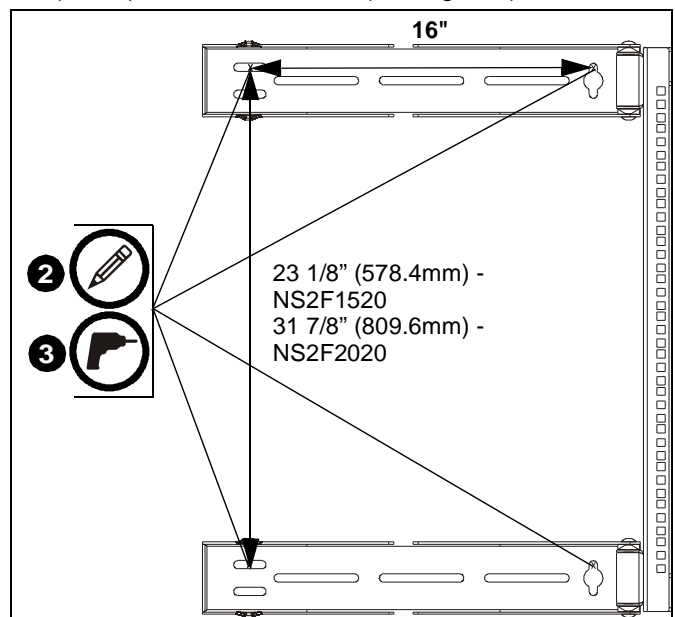

Figure 6
2. Place assembled frame on wall and mark hole locations. (See Figure 6)
**NOTE:** Holes must be drilled 23 1/8" (578.4mm) apart vertically if mounting an NS2F1520 or 31 7/8" (809.6mm) apart vertically if mounting an NSF2020. (See Figure 6)
3. Drill four 3/8" (10mm) diameter holes to a depth of 3 1/2" (89mm) at marked locations. (See Figure 6)